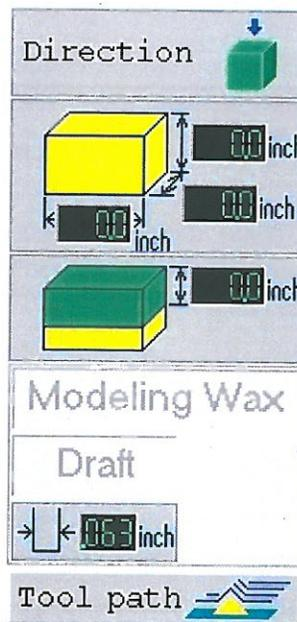

Figure 8: Settings Menu
- Once the file is open, go through each item in the Settings Menu and verify that they are correct (Figure 8).